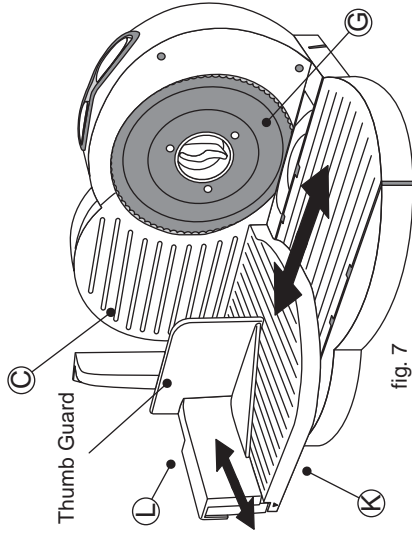

fig. 7
5. Use your other hand to hold the Protective Guide **L** with your thumb protected behind thumb guard. Apply gentle pressure onto the Protective Guide to keep the food pressed against the Face Plate **C**. Then to cut the food slide the Food Tray **K** back and forth steadily across the Blade Assembly **G**. **See fig. 7.**